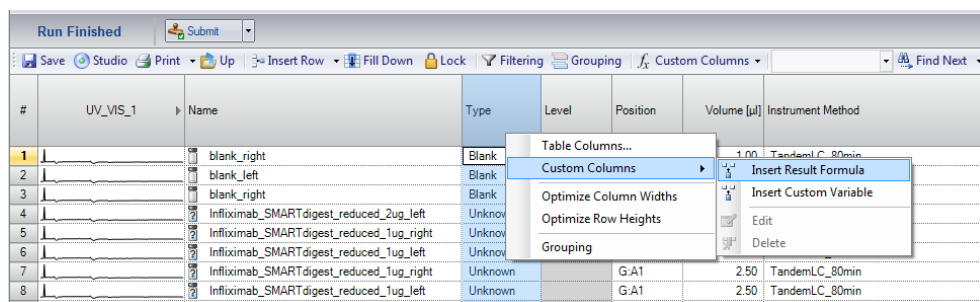

Figure 16: Insert Custom Column
- b. Follow the wizard and choose **“Create a new result formula”**, then select the category **“Preconditions”** with the variable **“Current Column”** and insert the new column (Figure 16).